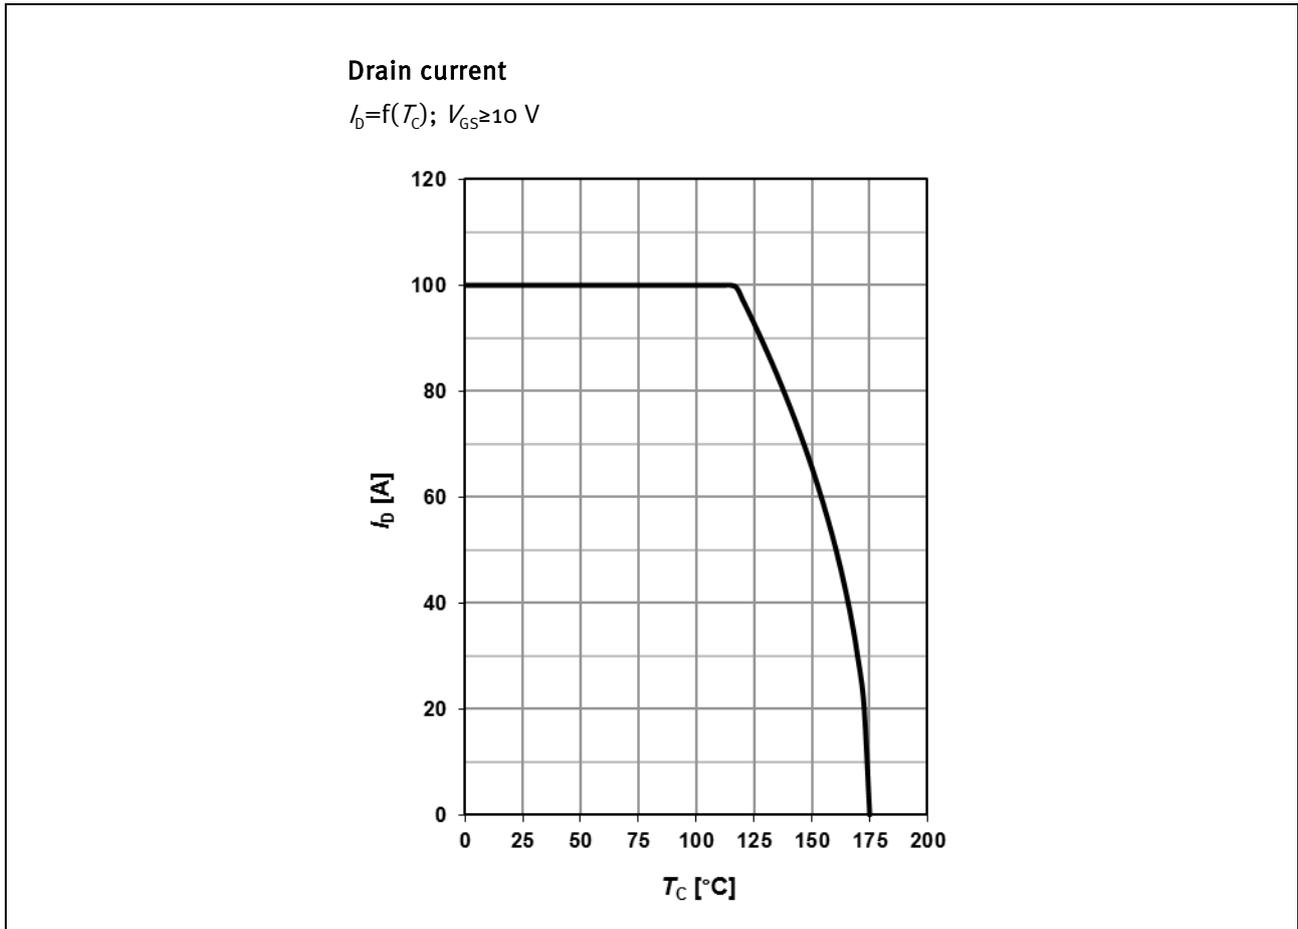

Figure 4 Drain current $I_D = f(T_C)$
However, in reality, additional boundary conditions, governed by bond wire diameter, chip design and assembly, limit the maximum continuous drain current as illustrated in Figure 4. At $T_C = 25^\circ\text{C}$, I_D is capped at 100 A instead of 169 A as calculated in eq. (4). This diagram illustrates that at low T_C , maximum I_D stays constant; at high T_C , it rolls off with acceleration until reaching zero at $T_C = T_{j(max)}$.